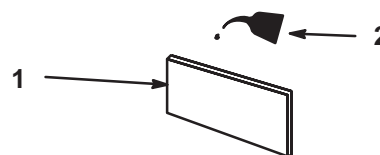

Figure 35
- C. Soak element in new engine oil. (Fig. 35). Squeeze the element to remove excess oil.